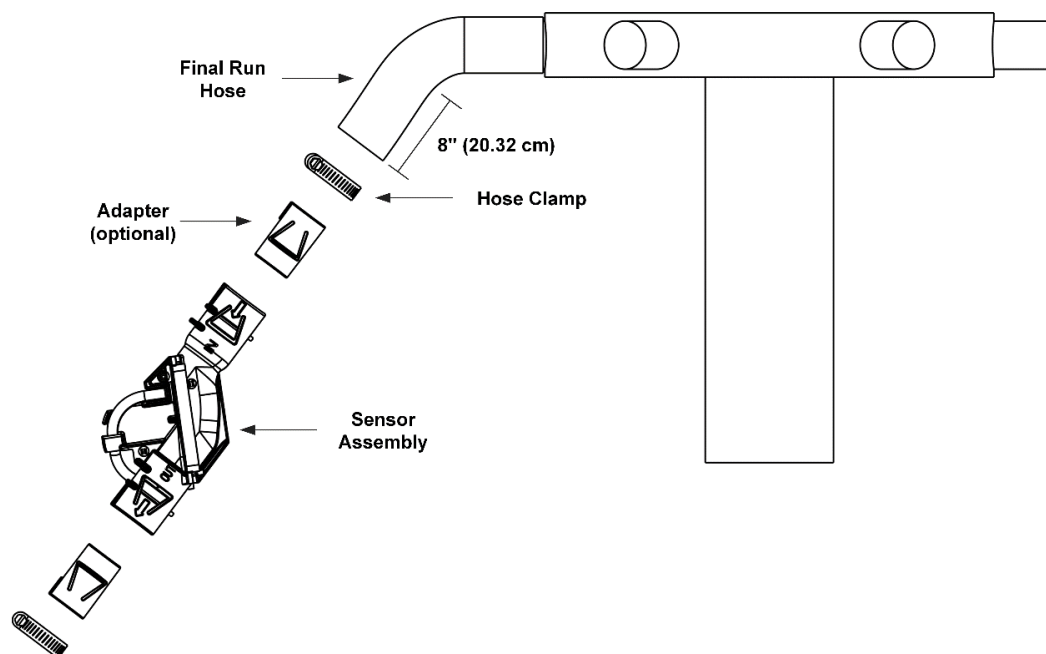

Figure 3: Installing flow sensors on a manifold
1. If you are using adapters, snap them into the sensor in the orientation shown in Figure 3.